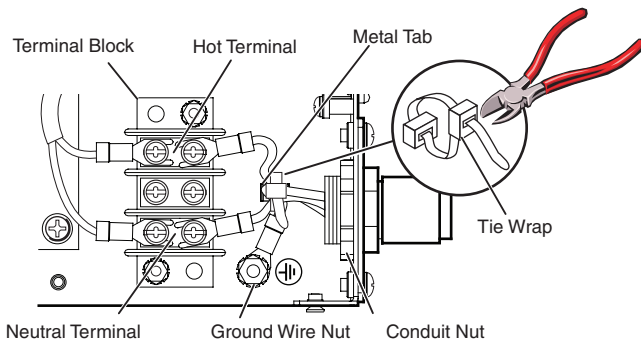

Figure 6 — Terminal block and conduit wiring
10. Slide the conduit nut (figure 6, below) over the bundle of wires exiting the conduit and onto the conduit itself *inside* the PS 123. Hand-tighten the nut.
WARNING Ensure that you observe wire polarity. Figure 6 shows the location of the neutral and hot poles on the mother board connector. The conduit wiring harness' neutral wire is identified with a tag marked "N" (neutral).
14. Retighten the conduit nut from step 10 (figure 6 above) to ensure that it firmly secures the conduit EMT adapter plate to the power supply.